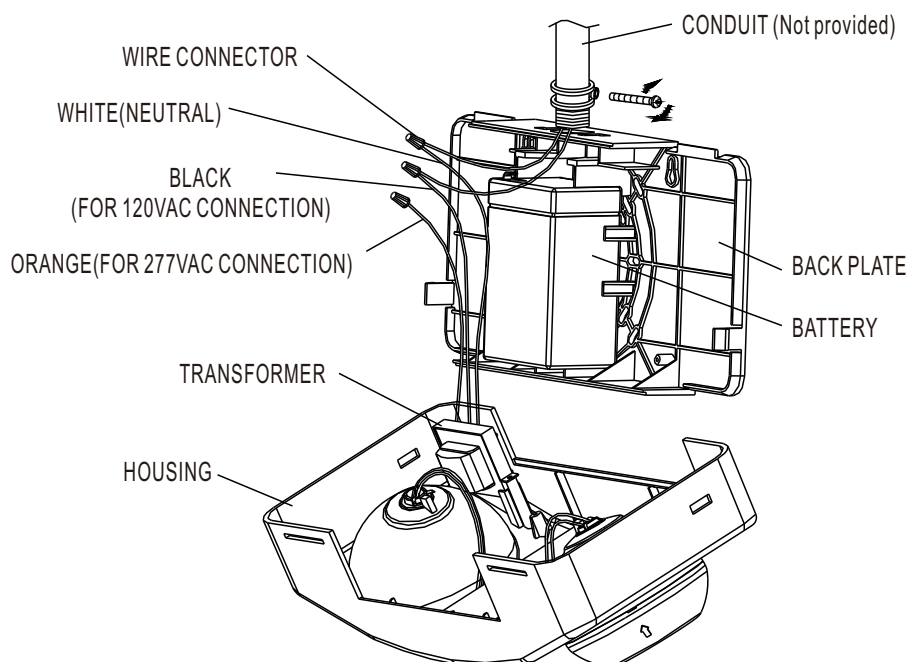

Fig.3
2. Remove knock out hole from back plate. (See Fig. 3)